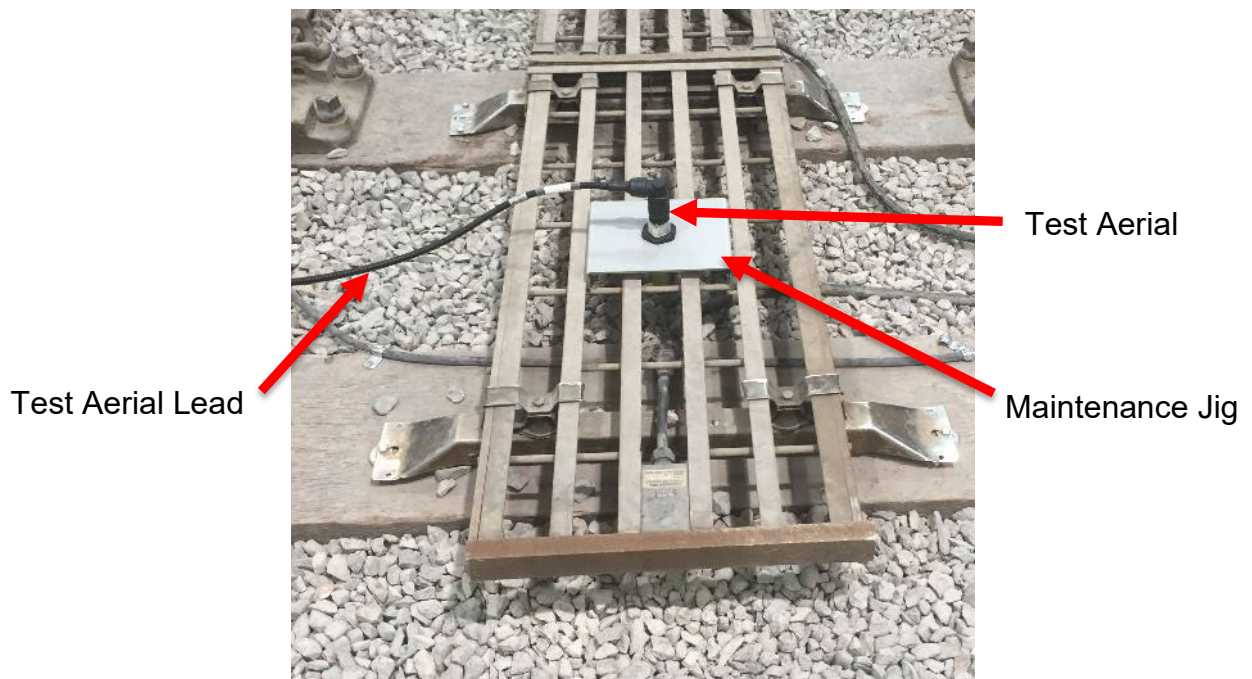

Figure 1: Measuring TPWS Field Strength - Maintenance Test
• To measure the voltage and frequency, the TPWS test aerial shall be positioned centrally on the loop using the Maintenance Jig. The meter shall not be held over the loops, to avoid interference from the loop field. as shown in Figure 1.